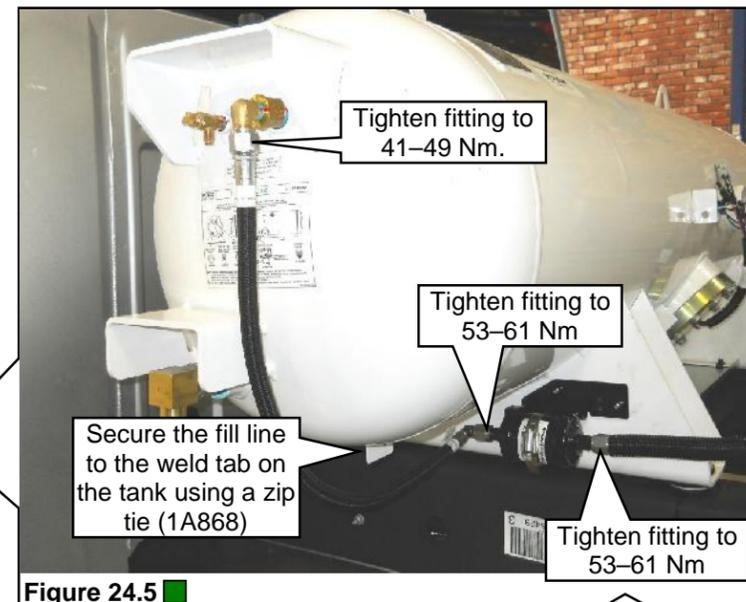

Figure 24.5 ■
14. Position the fill line between the fuel filter and the overfill protection device (OPD) 90 degree fitting. Thread the line fittings into the filter and the OPD and tighten the fittings to specification. Attach the fuel fill line from the fill valve to the fuel filter and tighten to specification. **Figure 24.5.**